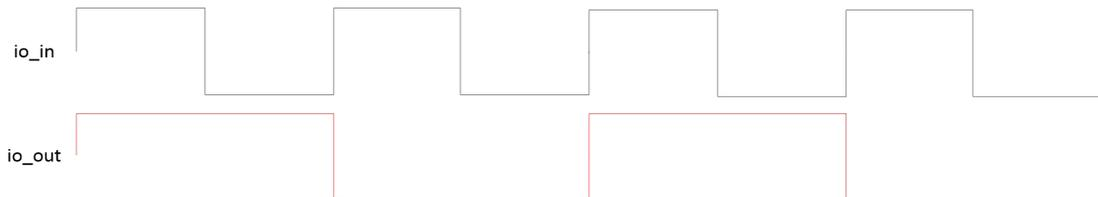
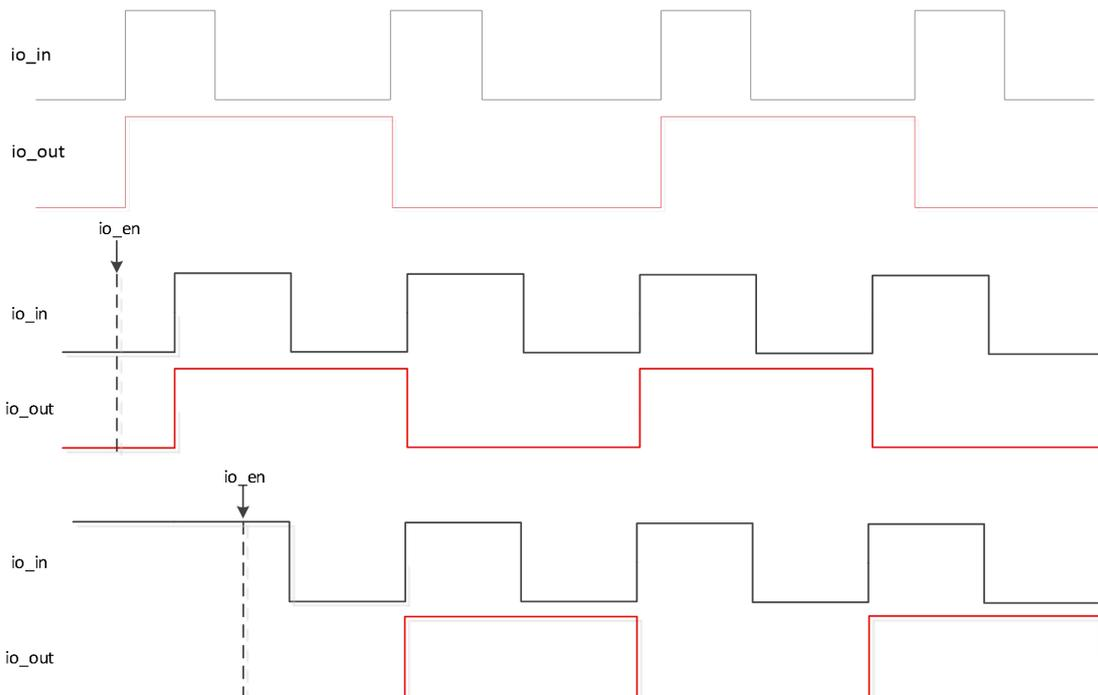
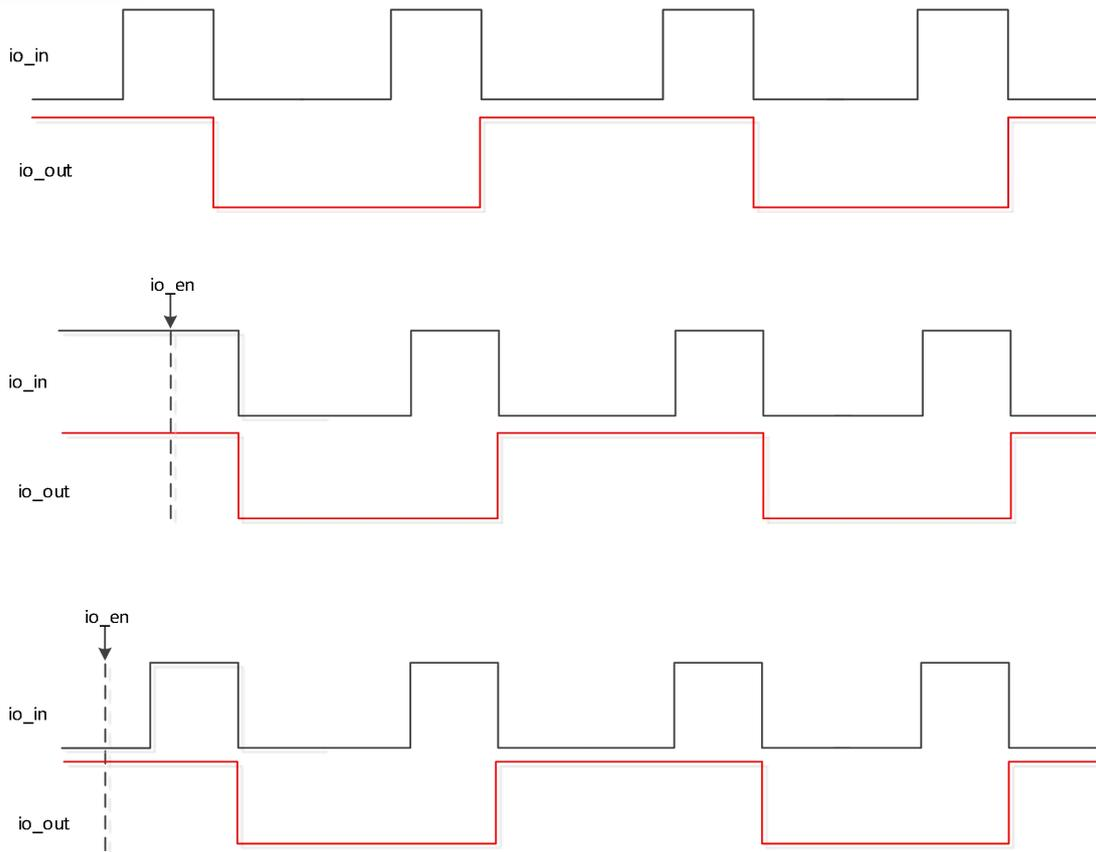

Figure 18 (n+1) crossover frequency
Figure 19 Rising edge alignment
Figure 20 Falling edge alignment
- When io_in is uniformly period-distributed, io_out maintains an equal-duty waveform after an even number of divisions, as shown in Fig. 18, Fig. 19, and Fig. 20